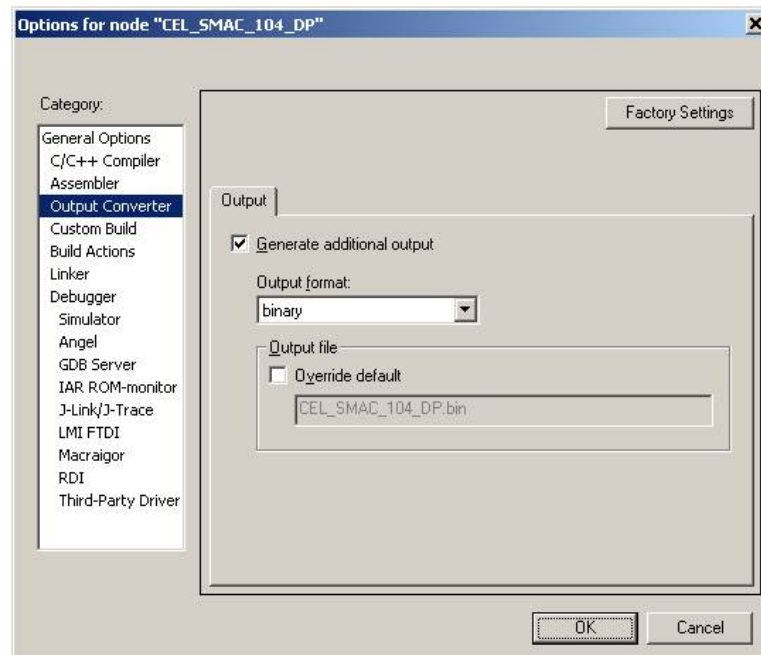

Figure 8 – Screen, IAR Workbench – Generating an Output File
- In the category 'Output Converter', check the 'Generate additional output' box and in the 'Output format' pull down box select 'binary' as shown in Figure 8. Click 'OK'.